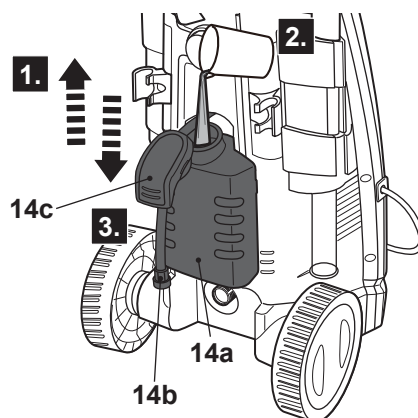

Fig. 18
- > Remove the cover (14c) and tube (14b) from the detergent tank (14a) (Fig. 18, step 1).
- > Fill the tank with detergent until the level reaches the upper graduation mark (Fig. 18, step 2).
- > Put the cover (14c) back onto the tank (14a) (Fig.18, step 3). Make sure the tube (14b) is not pinched when reattaching the cover (14c).